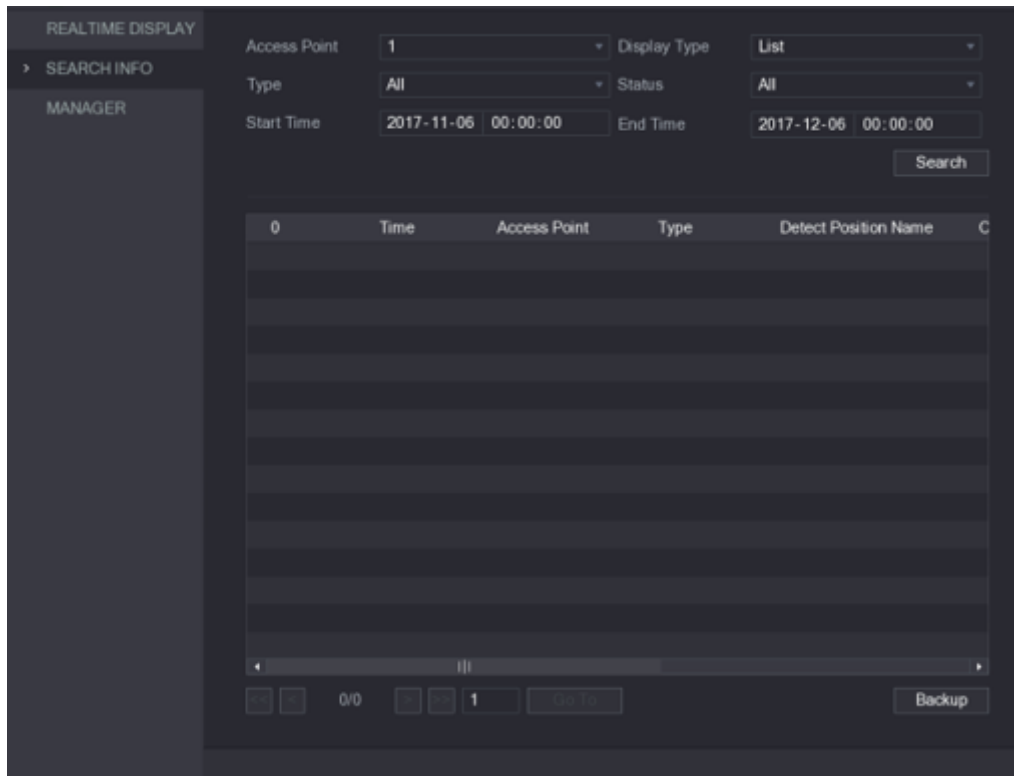

Figure 5-159
Step 1 On the main interface of Intelligent, click **IoT → SEARCH INFO**. See Figure 5-159.